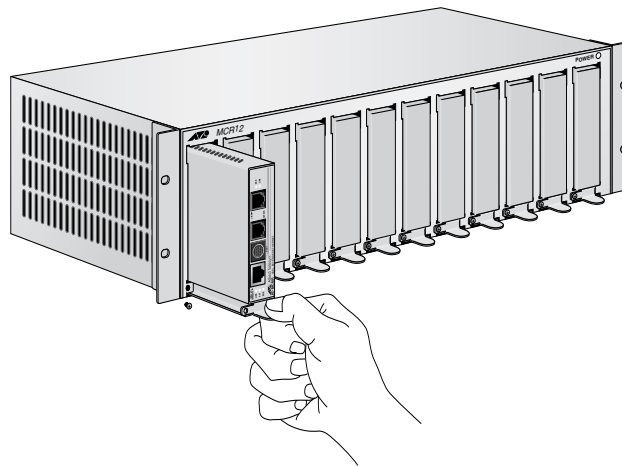

Figure 19 Rack Mount - Set in Rack
2. Then, set the slider in the chassis, as shown in Figure 19.